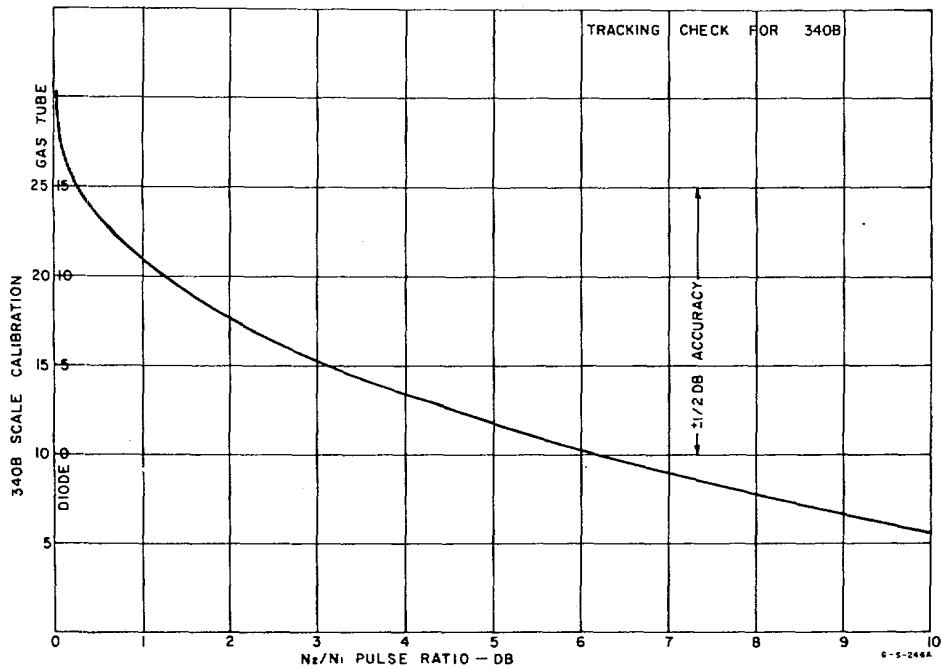

Figure 4-5. Scale Calibration vs Pulse Ratio
The AGC Gate V103A and Integrator V101A are shown in the schematic diagram, Figure 4-5. R106 is common to both cathode circuits and the voltage drop across it biases V101A well into cut-off as long as V103A conducts. When both the IF Amplifier and noise source are on, the gate signal from the Switching Circuits biases V103A into cut-off permitting conduction through V101A. Since the video signal connected to V101A is clamped by the DC Restorer to 150 volts, the average current through V101A depends on the amplitude of the signal at the input of the 342A. The negative voltage developed at the plate of V101A is thoroughly filtered and returned to the first two stages of the IF Amplifier and to the RF Amplifier, V6. In this way the gain of the RF and IF Amplifier is controlled to keep its output constant when the noise source is on (PO), so that the amplitude of No is a function of noise figure.
As can be seen from the schematic diagram, Figure 4-5, this circuit differs only slightly from the AGC Gate and Integrator. Except for the timing, the operation of the two circuits is the same. The gate signal from the Switching Circuits cuts off V103B, allowing V101B to conduct only when the Tuned Amplifier is on and the noise source is off. Since the signal applied to the grid of V101B is the clamped video signal from the DC Restorer, the average current through V101B increases as the pulse, No , gated through the Meter Integrator, increases in amplitude. This current is read on the meter which is calibrated in noise figure.
The 342A binary output jack(three terminals binding posts) located inside the instrument on the top of the chassis provides a synchronizing signal for the 211A Square Wave Generator. Either terminal A or B may be used and the correct terminal to be used is given in the procedure below. The negative-going half of square wave from 211A 600 ohms output is fed into the modulation input of 606A to provide a negative-going amplitude modulation during the time for which the N1 pulse (noise source off) is being sampled in the 342A. The positive- going half of the square wave from 211A represents the time of the N2 pulse (noise source on). The depth of the modulation of the N1 simulated pulse is adjusted by output amplitude control on the 211A. This gives a fine control on the amount of difference between the N1 and N2 pulses. The pulse ratio of N1 to N2 must be set very accurately in the procedure given below; as shown in Figure 4-5, which plots the 342A scale calibration in terms of the pulse ratio between N1 and N2. The curve is derived from the equation